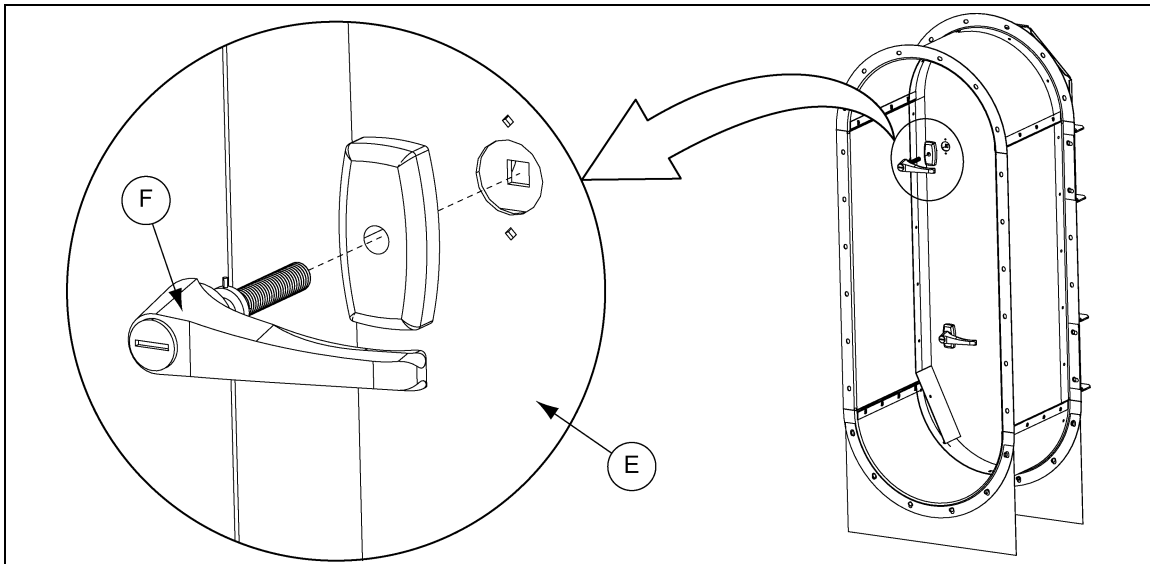

Figure 4
3. Install the locking door handle (F) through the heat section door (E). (See Figure 4.)